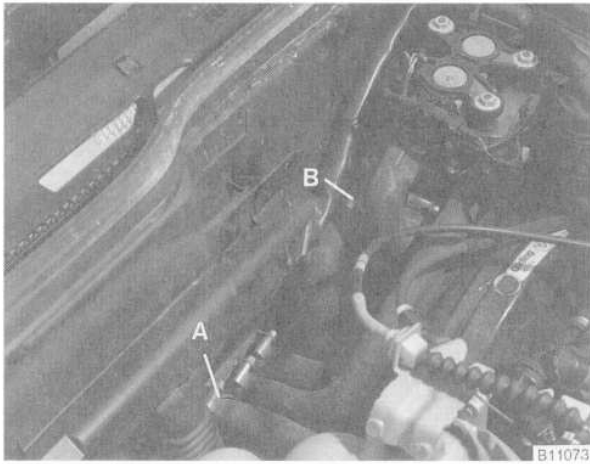

Fig. 33. Coolant hose at heater core (A) and heater valve (B) to be disconnected.
6. Disconnect the coolant hoses from the heater core and the heater valve shown in Fig. 33.